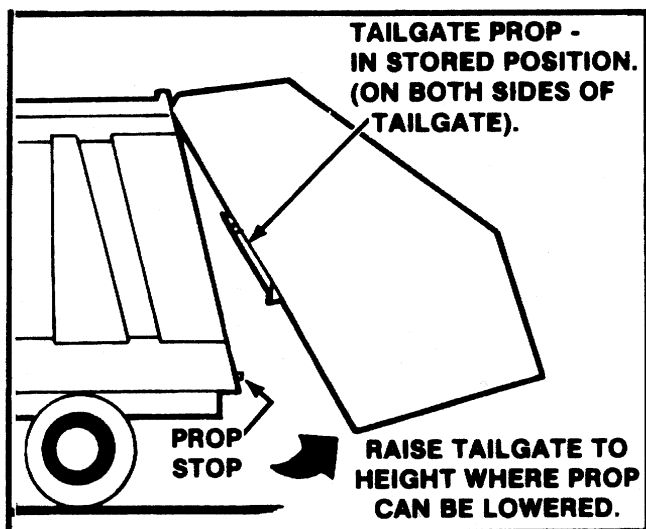

Figure 12. Raise Tailgate
2. Raise tailgate, see Figure 12.